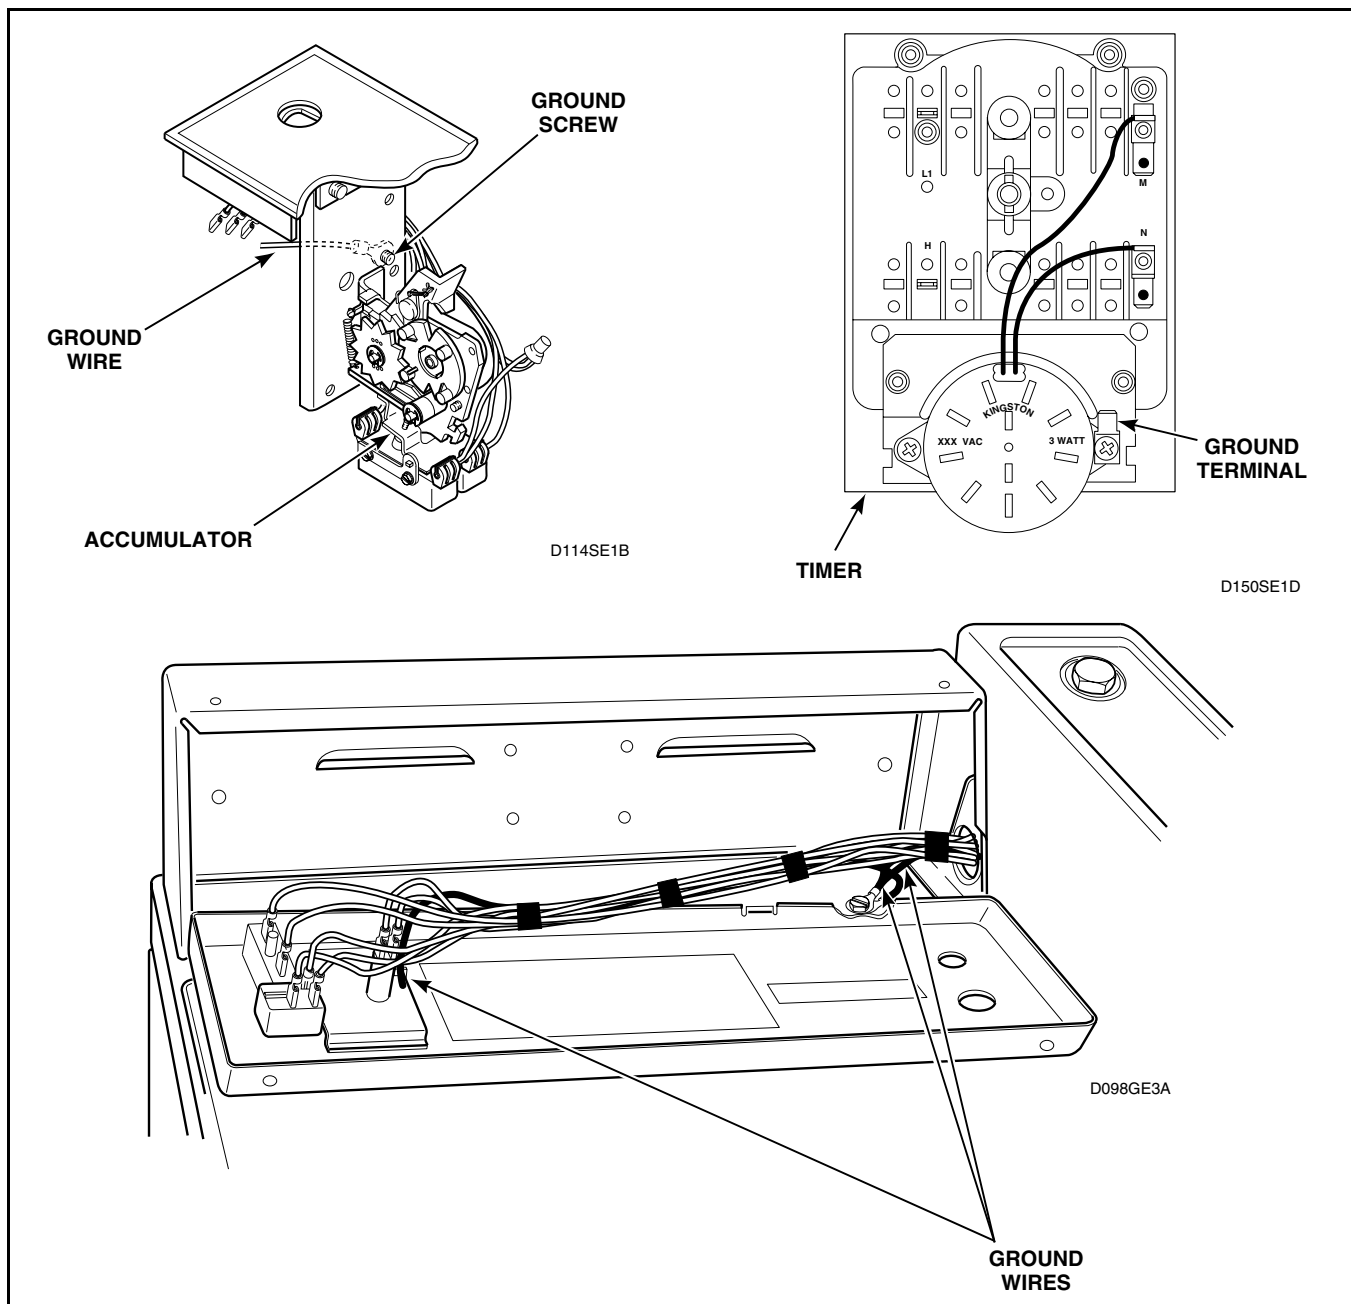

Figure 4
- e. Remove ground wire from ground terminal on timer. Refer to *Figure 4*.
- b. Disconnect all wires to temperature switch, PUSH-TO-START switch and INDICATOR LIGHT and remove ground clip and screw holding ground wire to cabinet top and control panel. Refer to *Figure 4*.